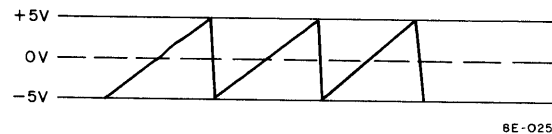

Figure 2-9 Oscilloscope Display for Ramp Test
- 6 The oscilloscope should display a positive-going ramp starting at the -5V level and rising to the +5V level, then deflecting full scale and starting again. See Figure 2-9.